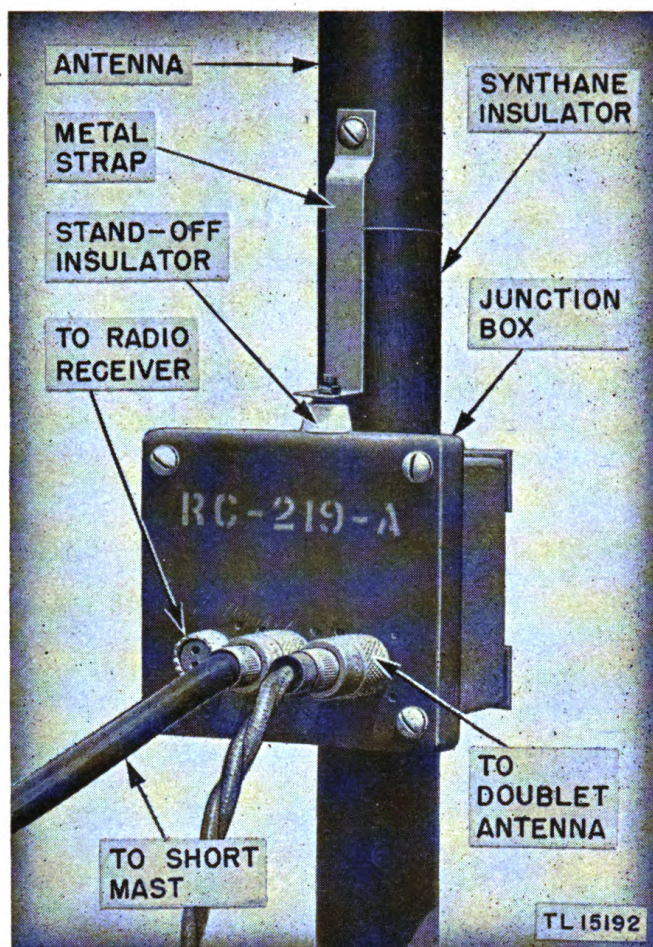

Figure 4. Antenna Equipment RC-219-A, junction box with three sockets.
(2) Place mast section (4857) with the 3-socket junction box (fig. 4) near the circular mast base and then place three of the mast sections (4425) and the threaded steel cap on the ground.
(3) Grease the joints with a small amount of general purpose grease No. 0 or No. 1. Assemble the sections and the metal cap. Keep the sections level to prevent them from bending. Twist the sections slightly to make it easier to insert the joints.
(4) Screw Mast Section MS-54 into the threaded steel cap then attach Mast Sections MS-53, MS-52, MS-51, and MS-50 (modified), in that order.
10. Junction Box Connections (figs. 4 and 5)
Insert Plugs PL-284 into Sockets SO-264 of the junction boxes as shown in figures 4 and 5. Make sure that these plugs are firmly inserted and the locking rings tightened. Cords and plugs for connecting the antennas to receivers are not furnished with these antennas.
a. **33-FOOT VERTICAL ANTENNA.** For the reception of low frequencies, this antenna acts as a vertical Marconi antenna providing good reception of signals from vertically polarized transmitting antennas within ground-wave radius. Used for the reception of low-frequency long distance signals reflected from the ionosphere, the antenna responds to the vertically polarized component of these waves, providing satisfactory reception. The 33-foot antenna is self-resonant at approximately 14.2 mc as a half-wave dipole antenna (high impedance at base); and at approximately 7.1 mc as a quarter-wave dipole antenna (low impedance at base). At lower frequencies, the antenna presents capacitive reactance to the receiver but through the use of an antenna coupling coil, inductive loading is provided to resonate the antenna at these low frequencies. This coupling coil is inside the junction box, located directly below the synthane insulator (fig. 4), on the lower part of the mast. The manner in which this coil functions to provide a wide frequency response is explained in *e* below.
d. **CONNECTIONS OF ANTENNAS.** The junction box on the 33-foot antenna contains, in addition to the coupling coil, three Sockets SO-264 (fig. 4). All three sockets are connected in parallel. One of the sockets connects to the coupling coil and to the transmission line of the receiver.